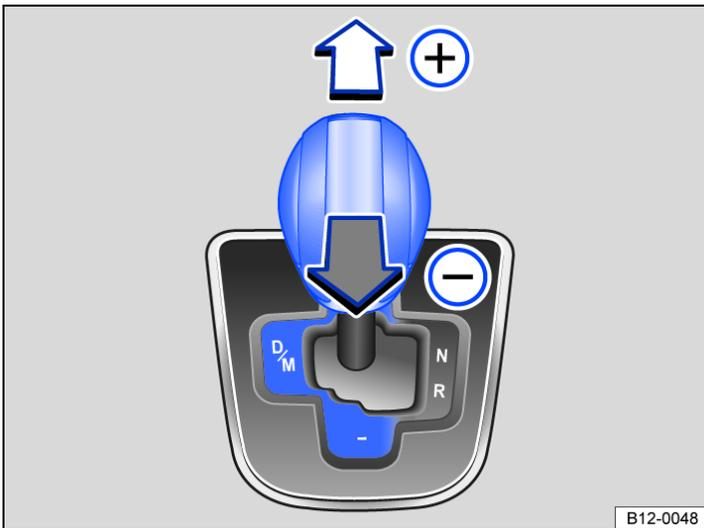

Fig. 1 Selector lever in Tiptronic position.
- Tap the selector lever forwards \oplus or back \ominus to shift gear up or down → Fig. 1.